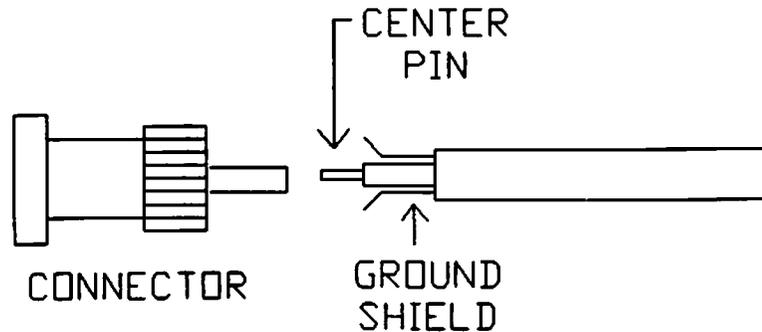

Figure 3
6. Slide the center pin and cable assembly into the connector case. Make sure that the center pin lines up in its hole correctly. If it does not line up, the pin will not be centered in the connector opening. You may need to use a needle nose pliers to pull the center pin all the way in from the other side. DO NOT pull too hard, you will yank the center pin all the way through the connector or separate it from the cable. See Figure 3.